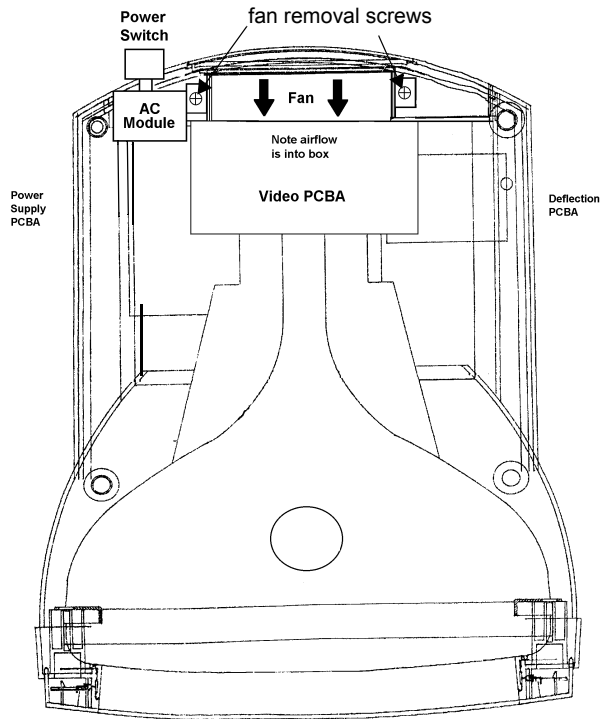

Figure 4-9: Fan location
3. Locate the fan on the rear of the display assembly and remove the screw on each side of the fan motor (refer to *Figure 4-9*).